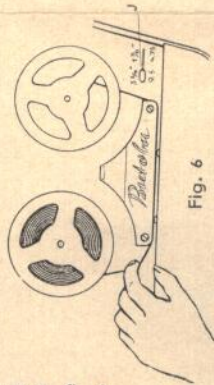

Fig. 6
4. Slip the tape into the guide slot and wind it into the empty reel for a few turns. The brakes should be released by pressing the Playback key "Q". Make sure that the tape lies correctly in the recesses of the two guide pegs. (See fig. 6)